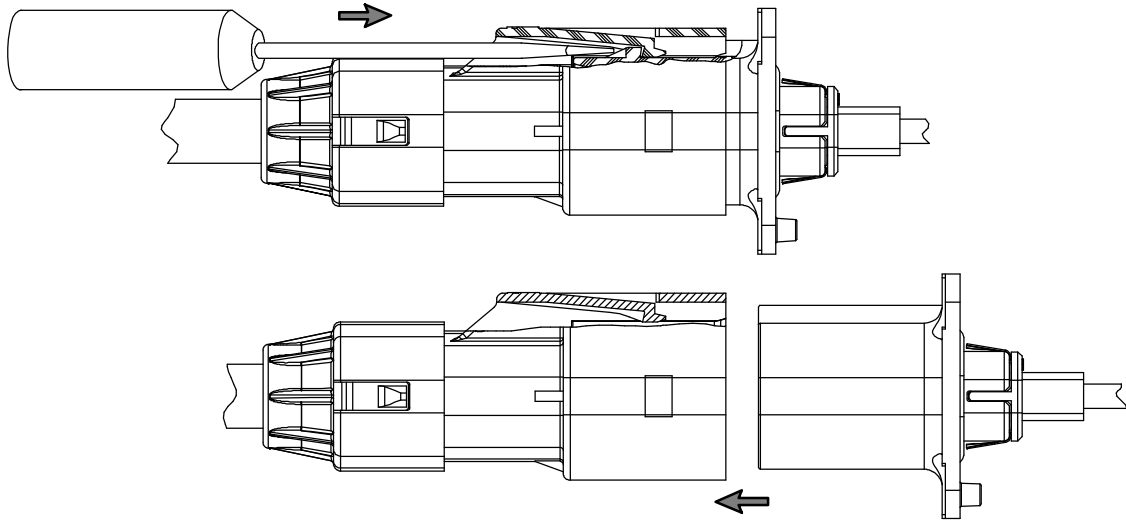

Figure 13
2. At the same time, pull the HVA280 plug assembly and header apart as shown in Figure 13. Do NOT pull on the cable or cable seal retainer.